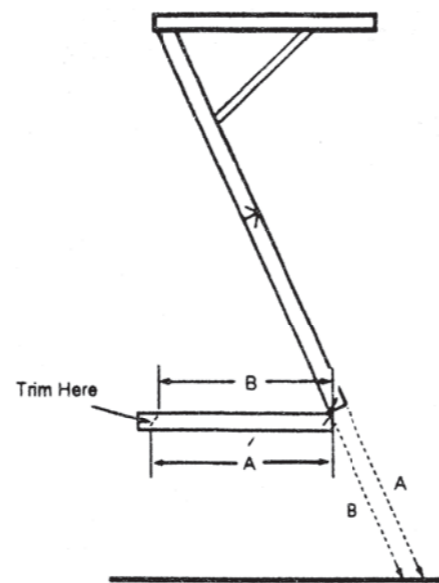

Fig. 7
- Step 2** Fold the bottom section of the stairway under the middle section, so that the top and middle sections form a straight line (Fig. 7).
- Step 3** Measure distance A and mark the distance on the A side of the bottom stringer. Measure distance B and mark the distance on the B side of the bottom stringer (Fig. 7). Draw a straight line between the points. It is possible for the landing area to be uneven, so repeat this procedure on the other stringer.